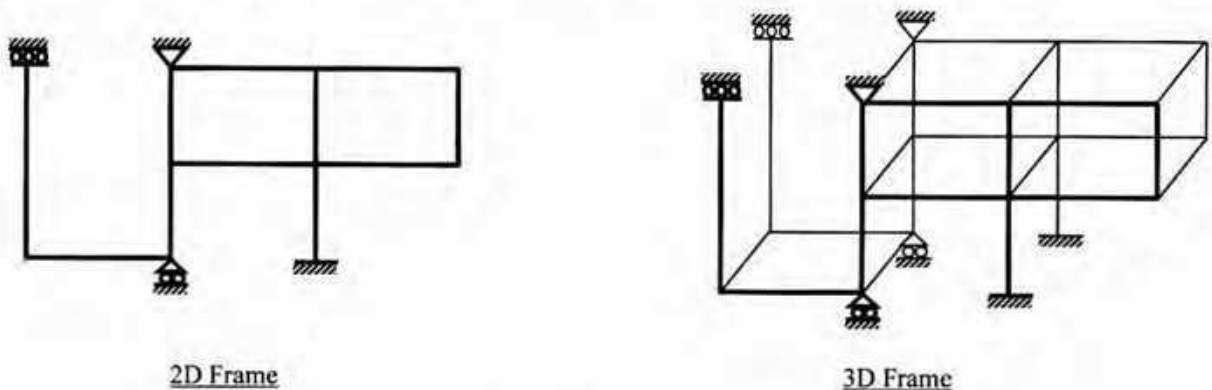

Fig. 9
13. Determine the size of the stiffness matrices (with and without considering the boundary conditions) of the 2D frame and 3D frame shown in Fig. 9.